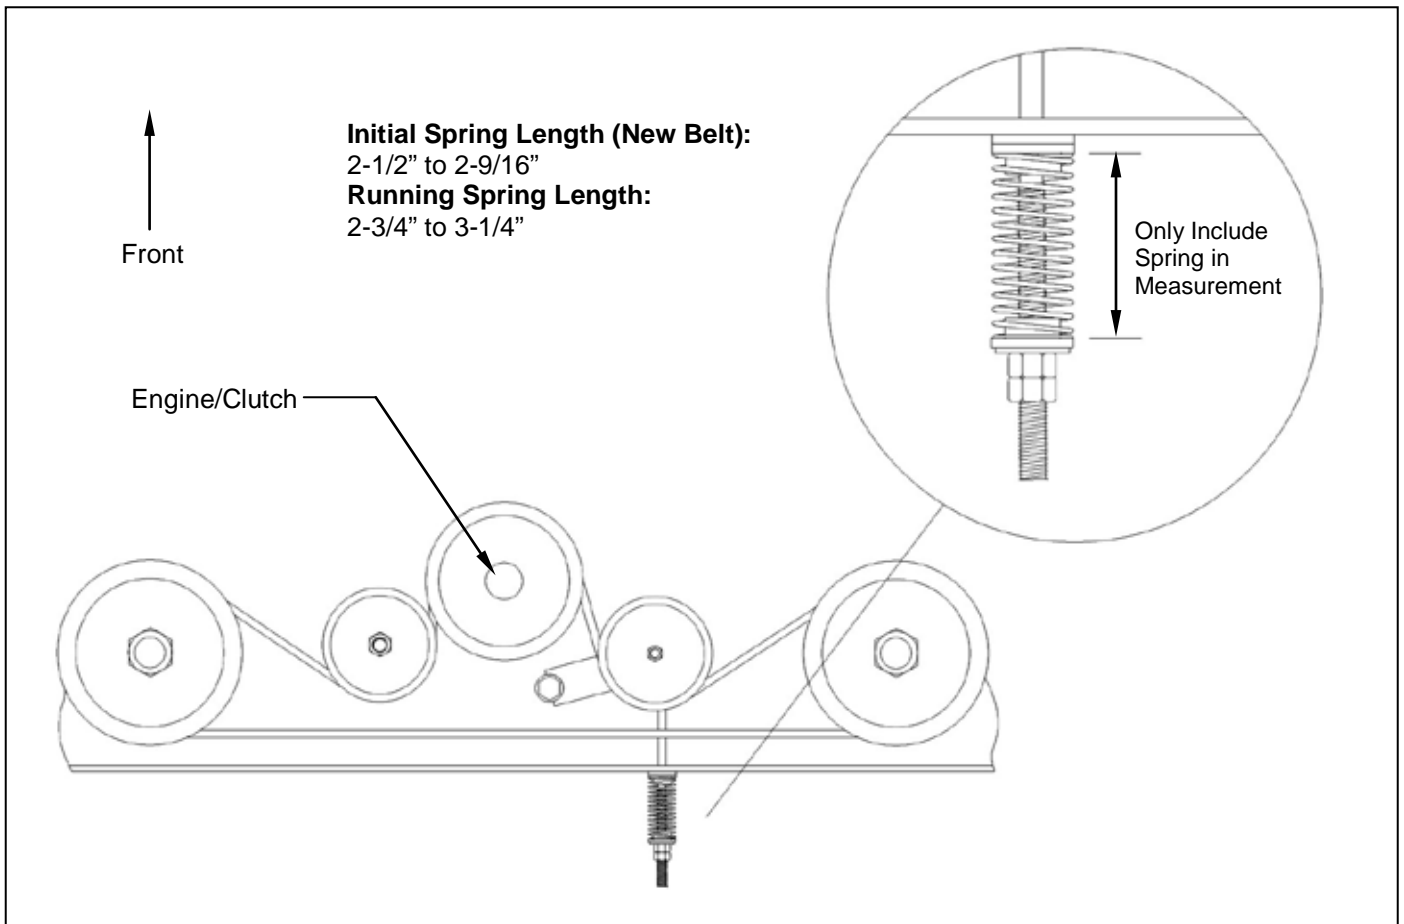

Figure 7: Belt Pattern and Spring Adjustment
F. DRIVE BELT REMOVAL AND TENSION – Refer to Figure 7
Install the new belt and then adjust the tension as follows: **See Figure 7.**